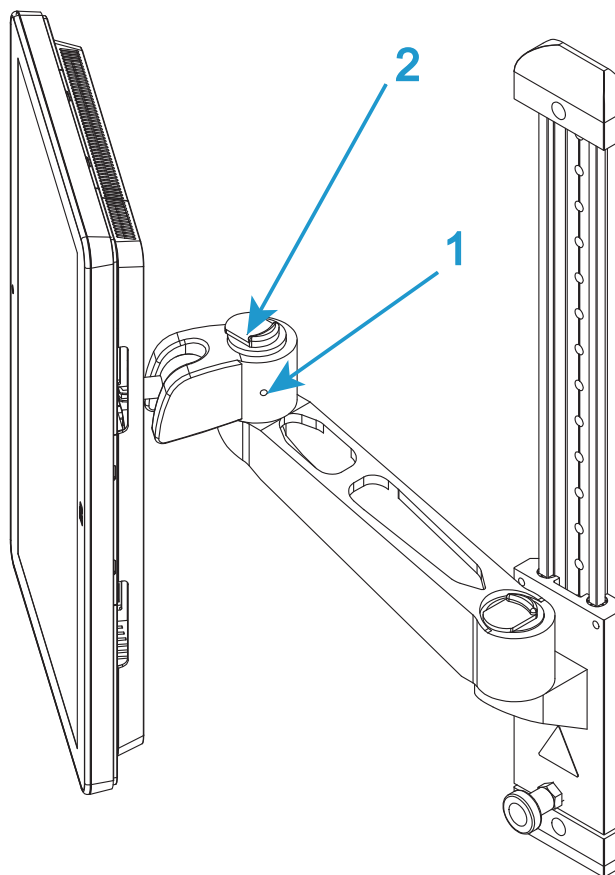
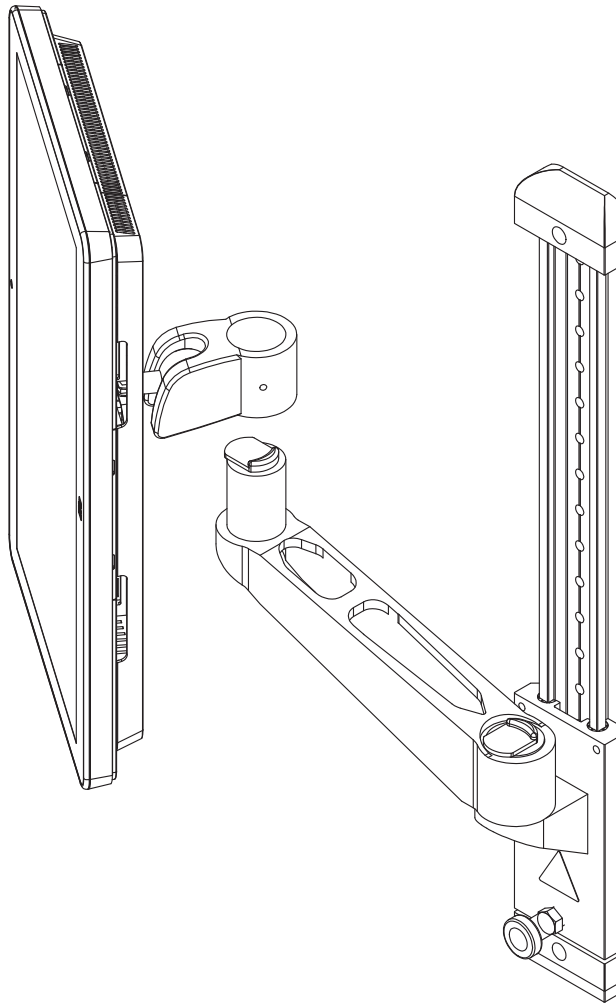

Figure 12. Mounting arm
Figure 13. Lift to remove
3. If necessary, loosen the set screw on the side of the “elbow” on the mounting arm (1 in Figure 12 on page 50).
4. Operate the release mechanism on top of the “elbow” (2 in Figure 12 on page 50) and lift the Bluehill® Operator Dashboard clear of the mounting arm (Figure 13 on page 51).